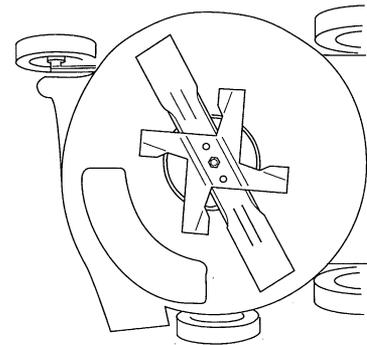

Figure 23
3. Tip mower onto right side (Fig. 23).